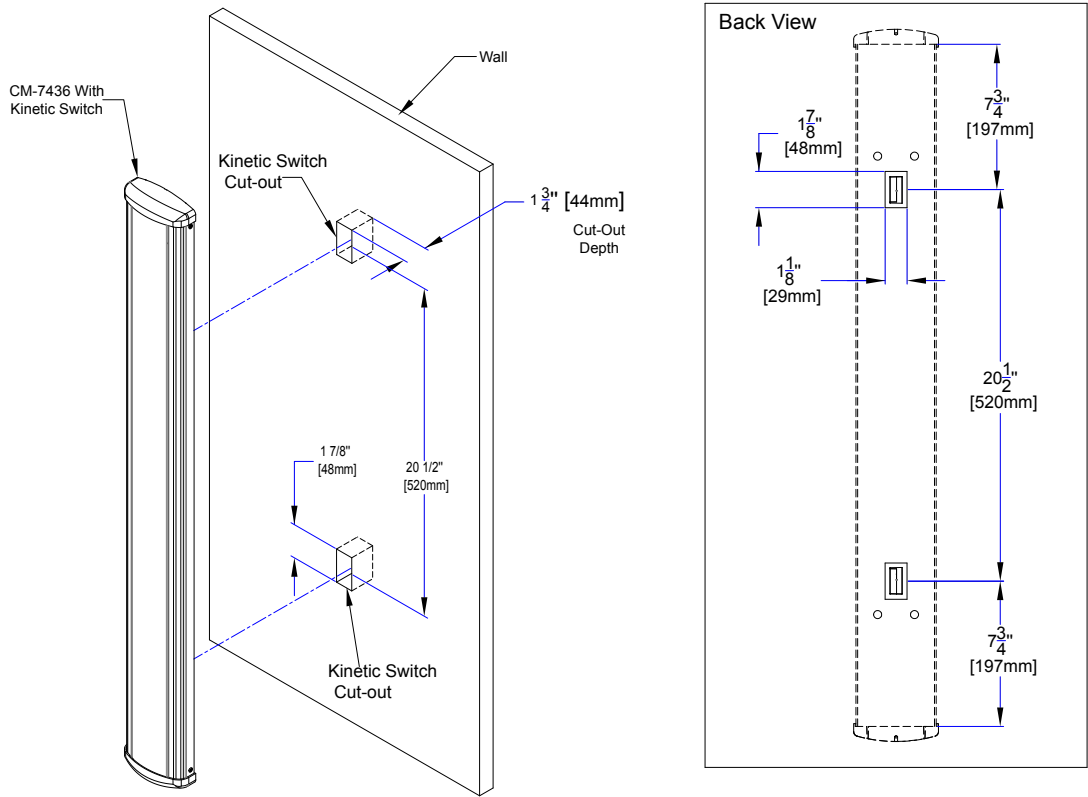

Figure 4.5 Kinetic Wall Mounting
- c. **If using Kinetic RF:** The CM-7436K uses 2 Kinetic RF switches installed near the top and the bottom of the actuator. When pairing this switch with a Kinetic receiver, you must pair both the top and the bottom switches. The pairing of Camden Kinetic transmitters is detailed in the CM-RX90v2 installation manual. (See Figure 4.5)